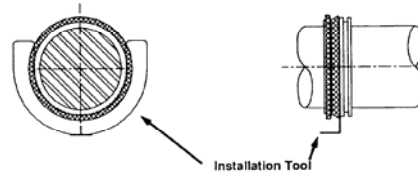

Figure 2b
- Place one of the installation tools between the lip of the V-ring seal and the center ring on the seal ring (Figure 2b). Repeat the procedure for the second seal assembly. Rotate the tool(s) to the lower position to facilitate assembly of the bearing and seal(s) into the housing base (Figure 2b).